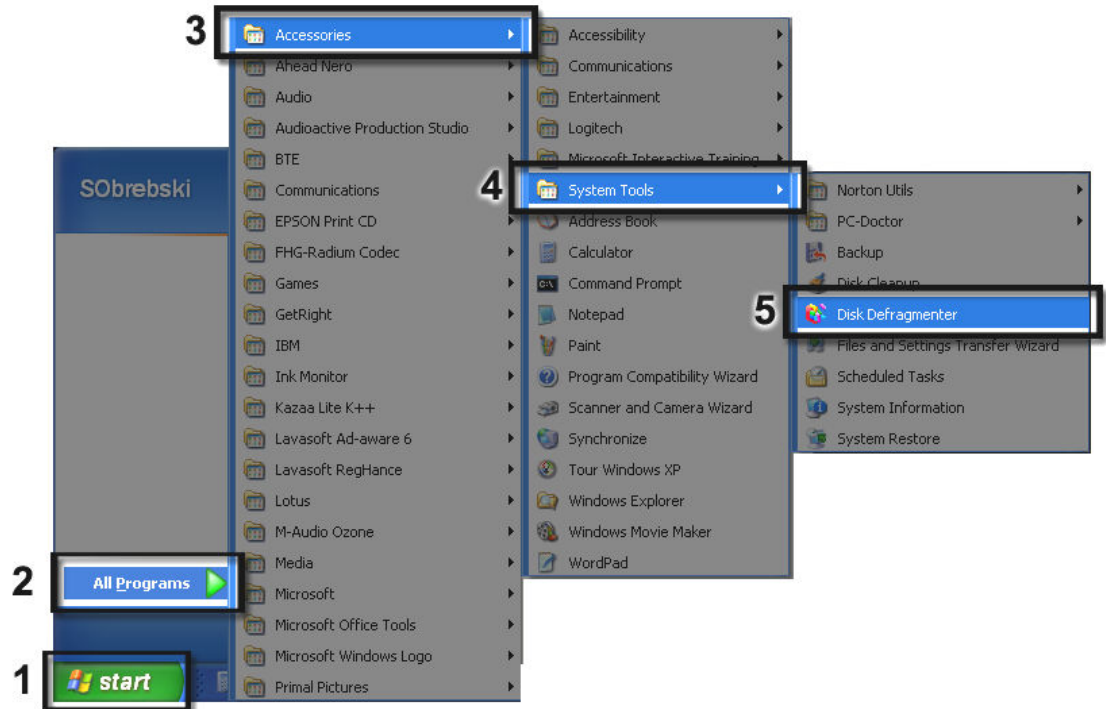

Figure 10a
- Step 1. Click the “**Start**” button at the bottom left corner of the screen (Figure 10a -1).
- Step 2. Move your cursor over the “**All Programs**” option menu (Figure 10a -2). This will expand a large menu to the right.
- Step 3. Move your cursor over “**Accessories**” (Figure 10a -3). This will expand another menu.
- Step 4. Now move your cursor over “**System Tools**” (Figure 10a -4). This will expand yet another menu.
- Step 5. Click “**Disk Defragmenter**” (Figure 10a -5) from this menu.